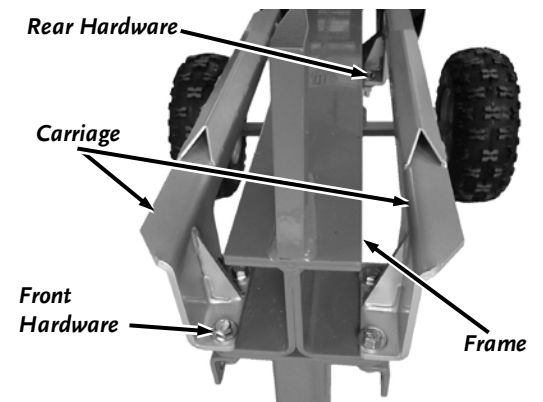

Figure 2
2. Loosen (do not remove yet) the eight Bolts, Flat Washers and Locknuts securing the two Carriages with two 9/16" Wrenches (**Figure 2**).